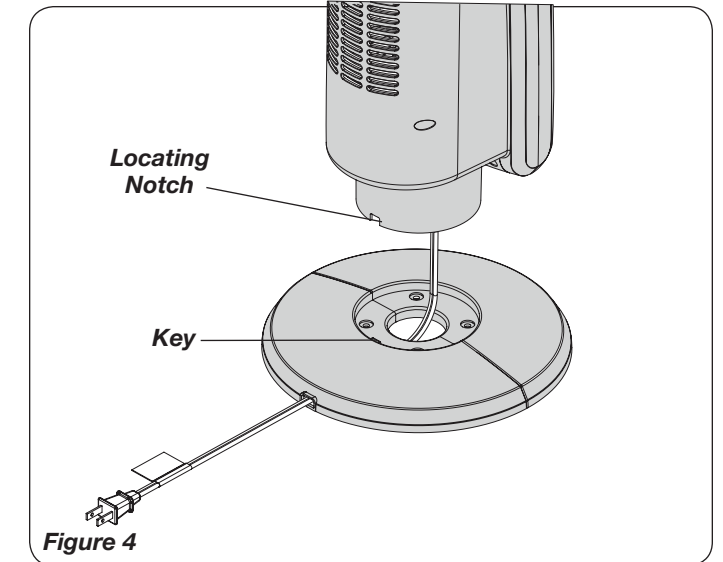
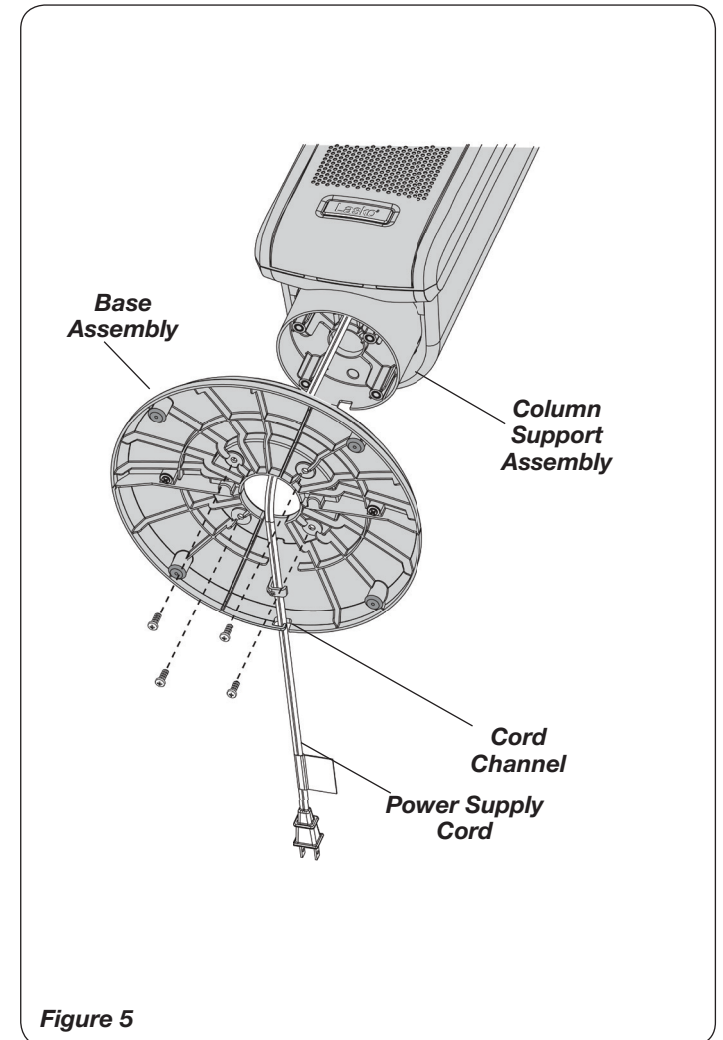

Figure 4
Figure 5
3. Align the **Base Assembly** with the **Column Support Assembly**. Make certain to align the **Locating Notch** on the **Column Support Assembly** with the **Key** on the **Base Assembly** (Figure 4). Attach the **Base Assembly** to the **Column Support Assembly** with (4) M5 X 13 mm Screws. Gently pull any excess slack of the **Power Supply Cord** and place it in the **Cord Channel** of the **Base Assembly**. (Figure 5)